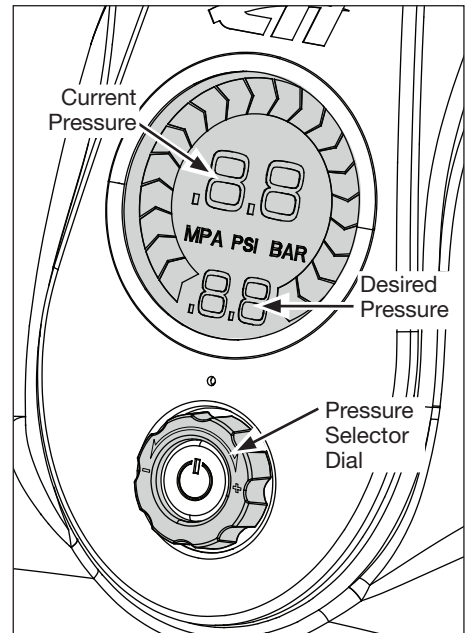

Figure 3 - Digital Pressure Gauge and Pressure Selector Dial
4. Turn pressure selector dial until the desired pressure field reads "LO" (LO setting is just below 20 psi setting). (See Figure 3).
6. When item reaches desired firmness, press power button again to stop inflation. The actual pressure will then read on the digital gauge after the inflator has stopped. (See Figure 3).
4. Turn the pressure selector dial until desired pressure is reached. (See Figure 3).